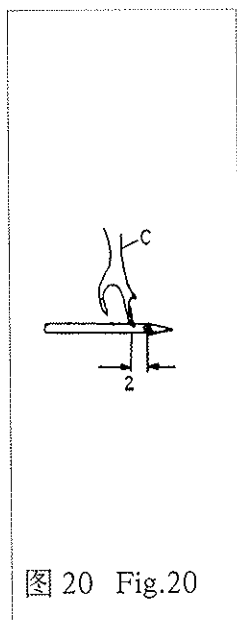

图 20 Fig.20
钩线叉的左右位置,当钩线叉的长叉尖与机针中心线相交时,长叉尖中心到机针穿孔左边的距离为 2 毫米左右(图 20)。
When the pronged thread hook intersects the central line of the needle, the center of pronged thread hook is deviated from the left side of the needle eye in 2mm distance (Fig.20)
(3)钩线叉高低位置 钩线叉的高低位置以钩线叉叉尖与机针相交(图 20)时, 间隙很小但又不相撞为佳, 一般要求间隙不大于 0.05 毫米。
Make the prong of thread hook intersect the needle (Fig.20) on condition that prong shall not come into contact with the needle. The interval between the prong and the needle shall be less than 0.05mm